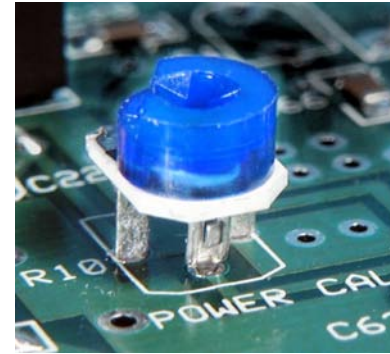

Figure 20. Installing PC Board Pots. Orient the center pin toward the beveled end of the silk screened outline.
- Install the 100 k-ohm (104) potentiometer R10 (Power Cal) in the upper left area of the board. The center lead goes toward the beveled end of the silk screen outline (see Figure 20). The shoulders on the leads should touch the top of the board.